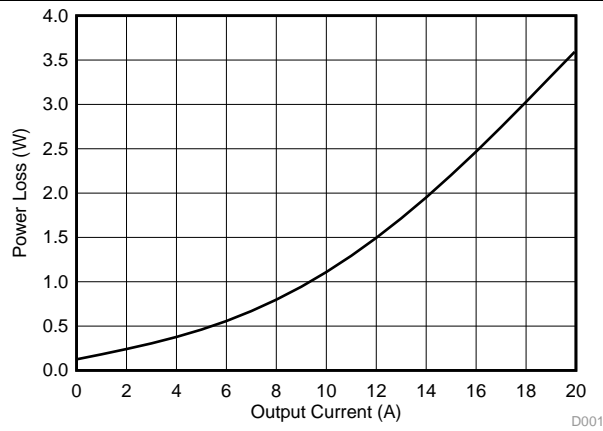

图 1. Power Loss vs Output Current
MOSFET centric parameters such as  $R_{DS(ON)}$  and  $Q_{gd}$  are needed to estimate the loss generated by the devices. In an effort to simplify the design process for engineers, Texas Instruments has provided measured power loss performance curves. 图 1 plots the power loss of the CSD86336Q3D as a function of load current. This curve is measured by configuring and running the CSD86336Q3D as it would be in the final application (see 图 30). The measured power loss is the CSD86336Q3D loss and consists of both input conversion loss and gate drive loss. 公式 1 is used to generate the power loss curve.
The power loss curve in 图 1 is measured at the maximum recommended junction temperatures of 125°C under isothermal test conditions.
- Power loss at 18 A = 3.03 W (图 1)